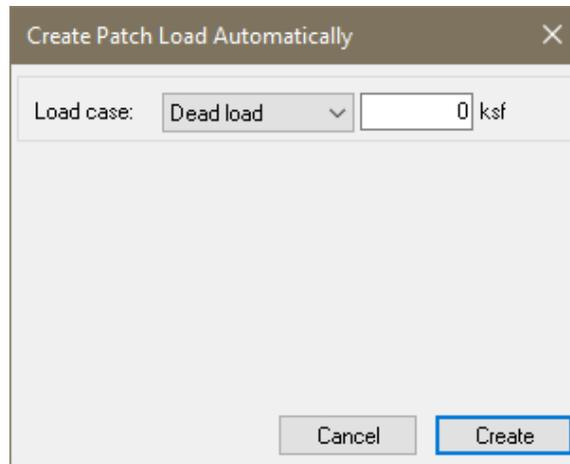

Figure 4-3
- Go to *Loading* → *General* and click on the *Patch Load Wizard* icon of the **Loading** Toolbar. This should open the *Create Patch Load Automatically* dialog window shown in **FIGURE 4-3**.